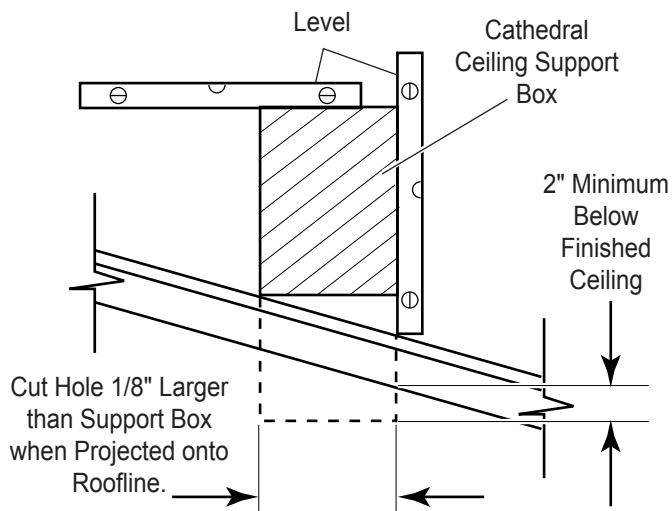

Figure 30 - Cathedral Ceiling Support Box Installation
2. Cut the hole $\frac{1}{8}$ " larger than the support box outline. See Figure 30.
3. Lower the support box through the hole in the roof until the bottom of the box extends at least 2" (mm) below the ceiling. See Figure 30. Align the support box vertically and horizontally using a level. Temporarily tack the support box in place through the inside walls and into the roof sheathing.